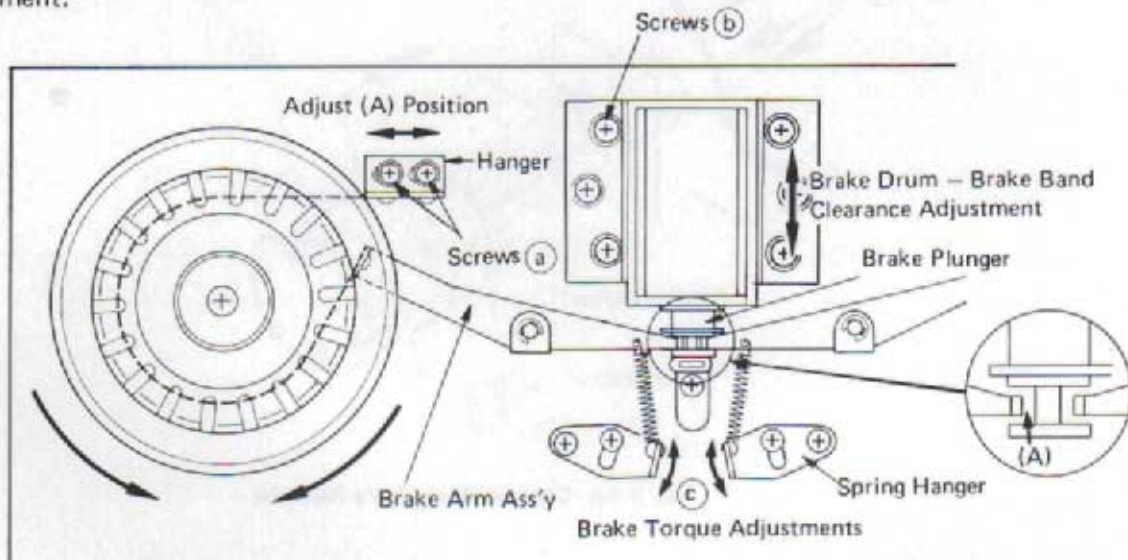

Fig. 9-4-1. Brake Mechanism Adjustments
3. If values do not meet specifications, change the hooking position of the spring hanger (reference (c) in Fig. 9-4-1) for the corresponding brake requiring adjustment, if the torque is still not correct, replace the brake felt pad with a new one after cleaning the inner-side of the brake belt with an alcohol cleaning solution, and also check that the brake mechanism is properly aligned as ex-